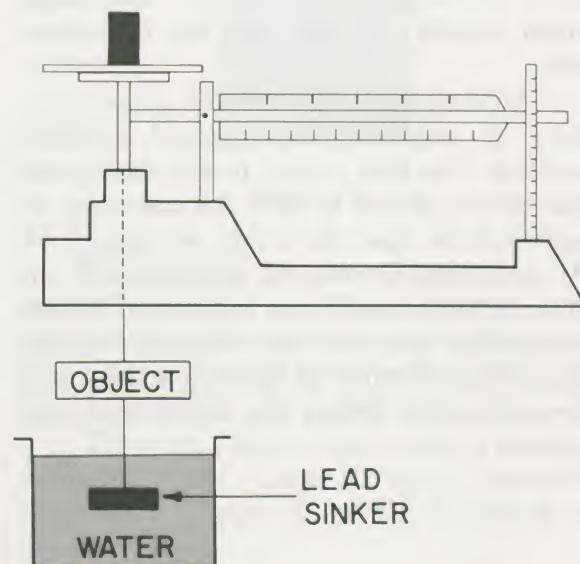

Figure 20.
- Suspend a heavy metal sinker from the object, as shown in Figure 20.
- Submerge the sinker, as in Figure 20, and measure and record the apparent mass of the object in air plus the sinker in the water ( $M_A + M_{\text{sw}}$ ).